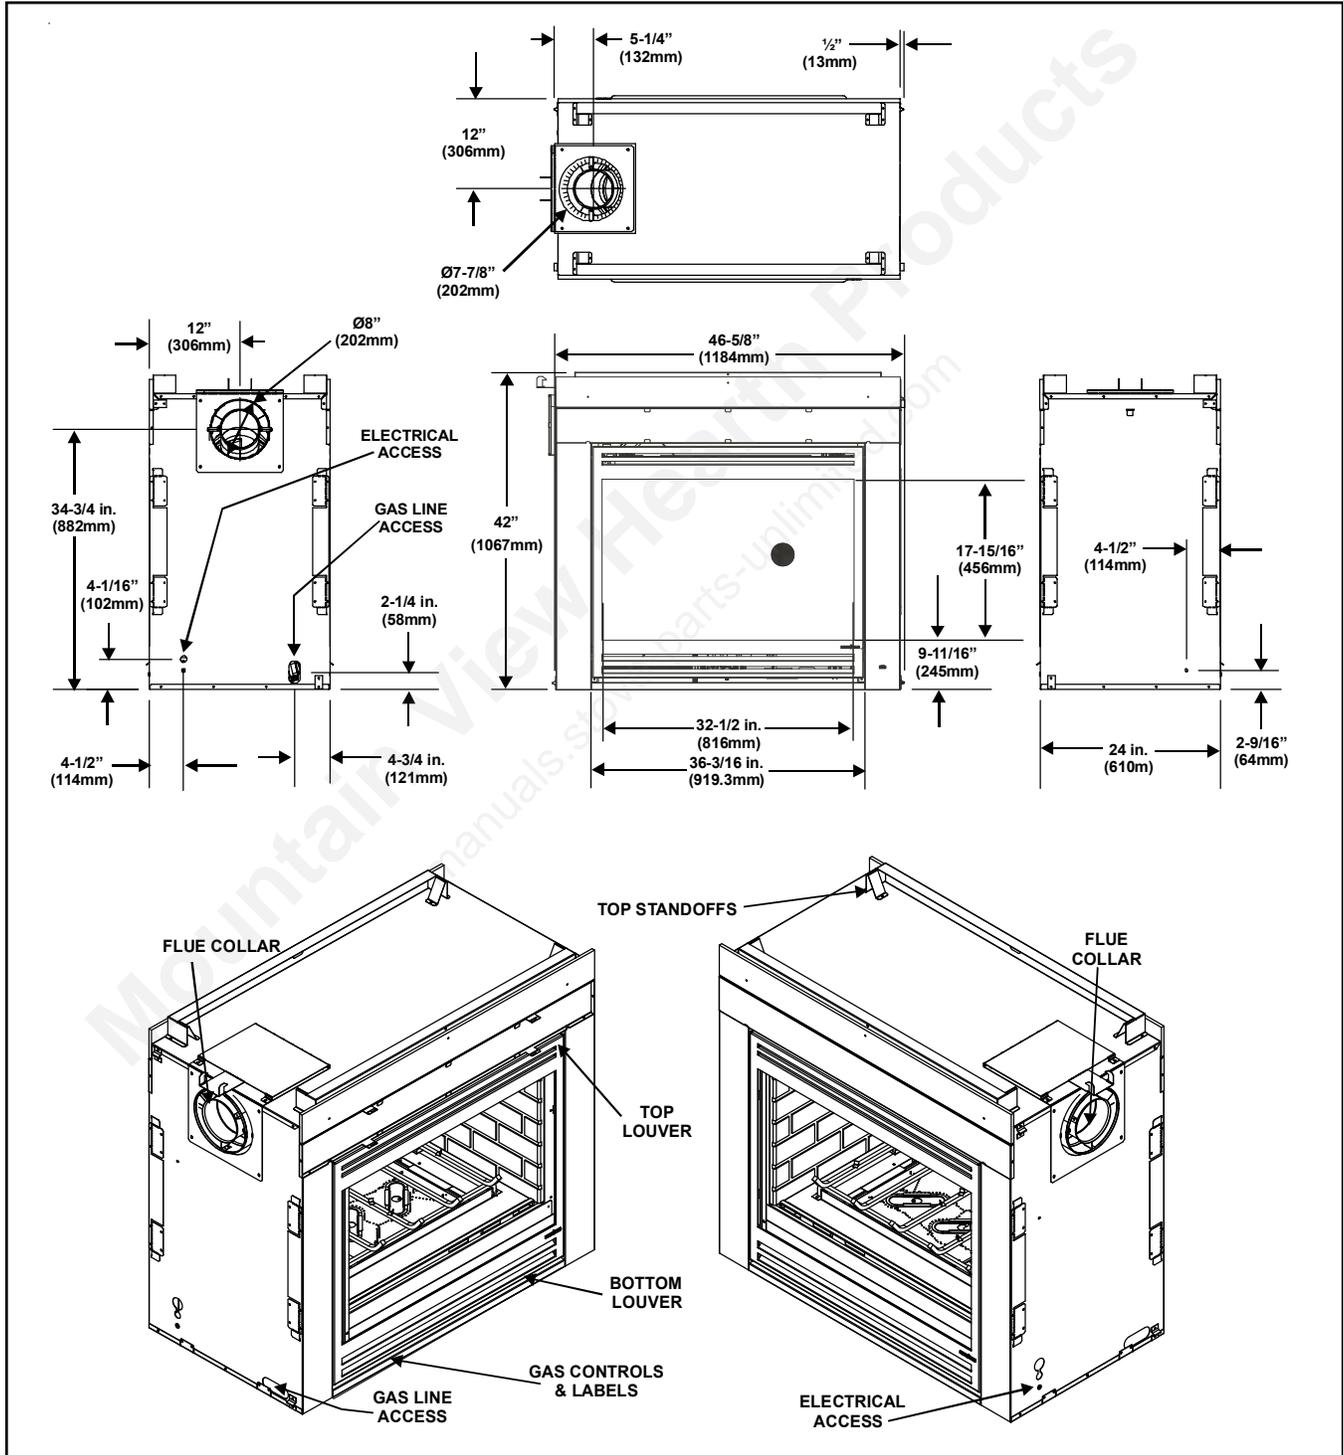

Figure 1. Diagram of the ST-HVBI-AU
* The clearance to the ceiling is measured from the top of the unit, excluding the standoffs (see Figures 1 and 2).